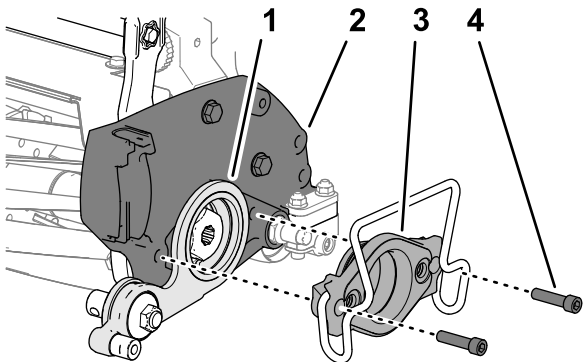

Figure 19
- 1. Align the idler assembly to the cutting unit as shown in Figure 19.
- 2. Align the idler plate to the side plate of the cutting unit as shown in Figure 19.
- 3. Assemble the motor mount through the idler plate and into the side plate of the cutting unit (Figure 19).
- 4. Assemble the mount to the plate (Figure 19) with the 2 socket-head screw (5/16 x 1-1/4 inches)